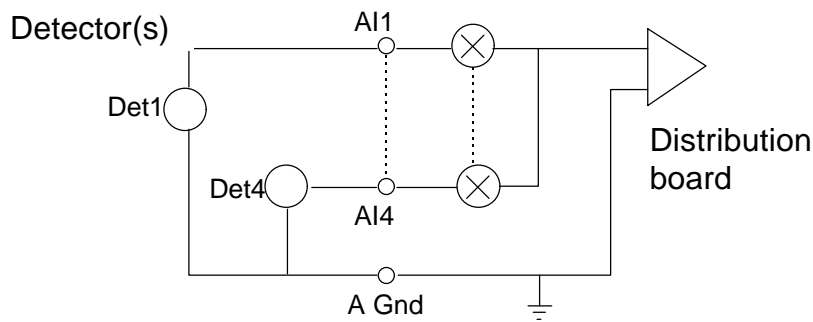

Figure 1 : Single-ended Analog inputs
- o Connect each detector to the distribution board while the computer and detectors are switched off. Quick connectors are supplied with your package to facilitate easy connection of the detector to the distribution board. The Analog signals are input as single ended inputs. Single ended inputs are depicted in figure 1.